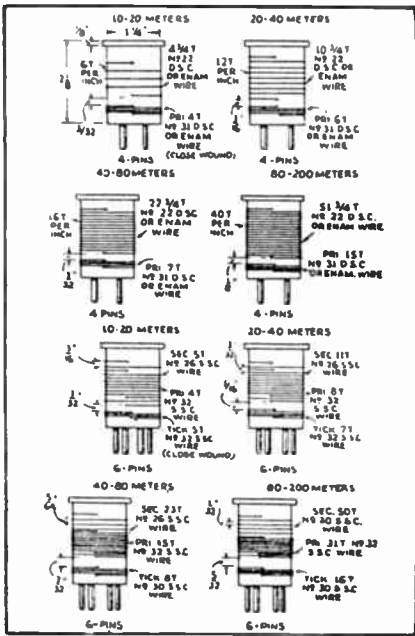

Fig. 34
(A) Coil specifications depend upon the capacity of the tuning condensers used. You do not state what capacity condensers you plan to use. However, the most commonly employed is .00014 mf. Therefore, the data in Fig. 34 are calculated for condensers of that capacity.